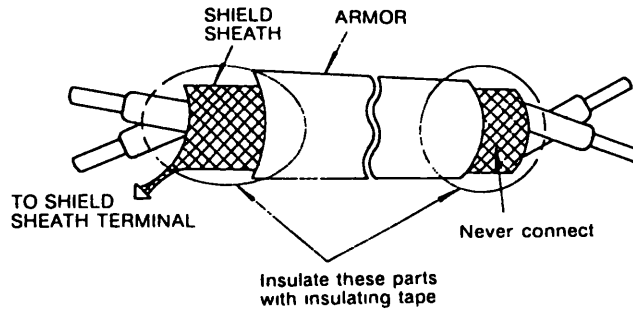

Fig 6.2 Shielded Lead Termination
(1) Control signal leads (1 to 4CN) must be separated from main circuit leads (R, S, T, U, V, W) and other power lines and power supply lines to prevent erroneous operation caused by noise interference.
(2) Use the twisted shielded lead for the control signal line, and connect the shield sheath to any of the controller terminals. See Fig. 6.2. It is recommended that the wiring distance of the signal leads be 50 meters or below. The wiring distance between a motor and a VS-626MTII unit should be 20 meters or below.